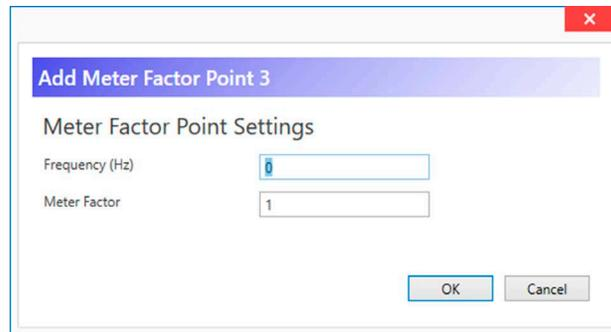

Figure 7.11—Add Meter Factor Point dialog
- Add Point. Presents a dialog for entering the Meter Factor at a specified frequency (Figure 7.11).